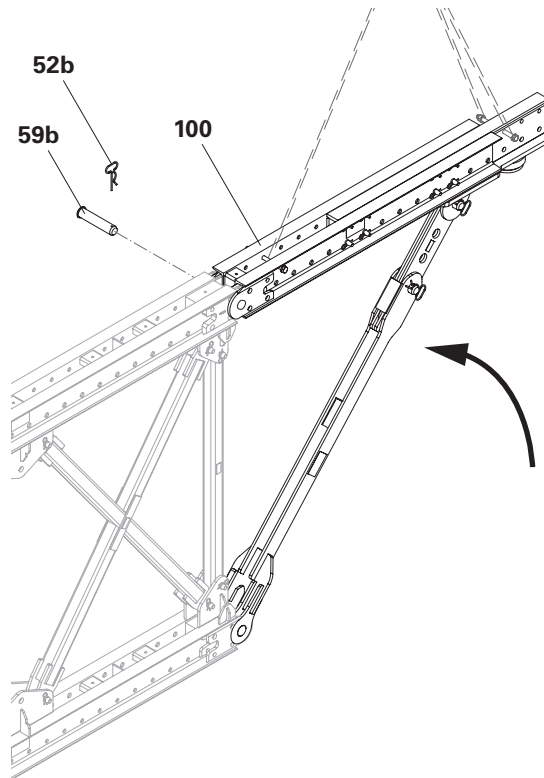

Fig. H1.07
4. Bolt the Bearing Frame VBR (**100**) with bolt  $\varnothing 50 \times 250$  (**59b**) into the top chord of Coupling Joint Frame 1.5 m VBR (**101**) and secure with cotter pin 6/1  $\varnothing 50$  VRB (**52b**). (Fig. H1.07)